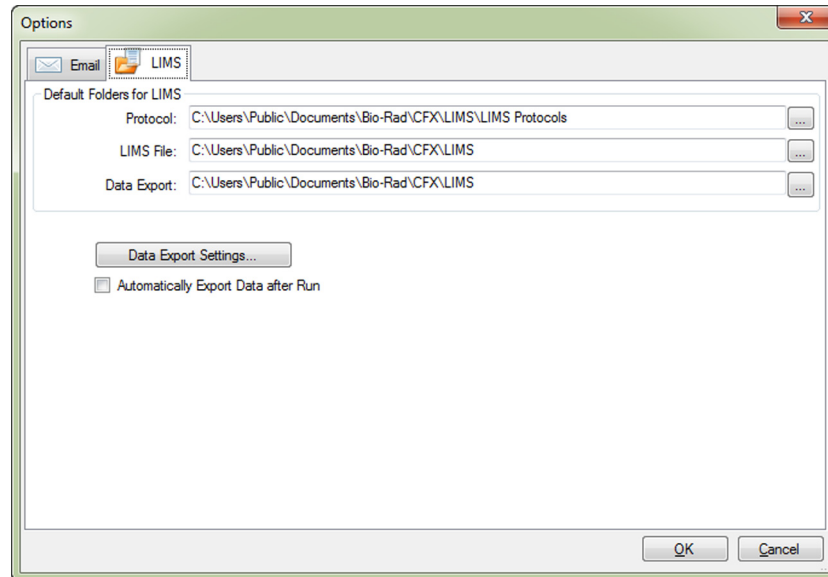

Figure 99. Options window displaying the LIMS settings tab.
1. Select **Tools > Options** from the main software menu bar then select the **LIMS** tab (Figure 99) to define the folder location that will contain the LIMS protocol (*.prcl), LIMS file (*.plrn), and exported data.
2. At run completion, a LIMS data export file can be automatically generated in addition to the CFX Manager software *.pcrd data file. Check the **Automatically Export Data after Run** (Figure 99) box to have the data exported automatically once a run is completed.
Upon run completion, a CFX Manager software data (.pcrd) file is generated and saved to the defined data export folder location (Figure 99).